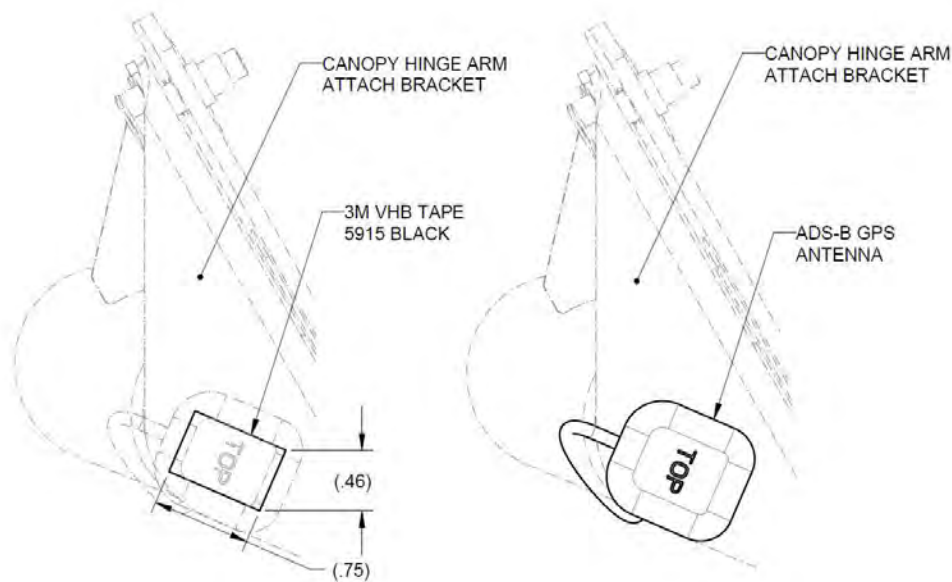

FIGURE 14-73
1. Mount ADS-B GPS ANTENNA to the top of the Canopy Hinge Arm Attach Bracket as shown in and as follows. See Figure 14-73.